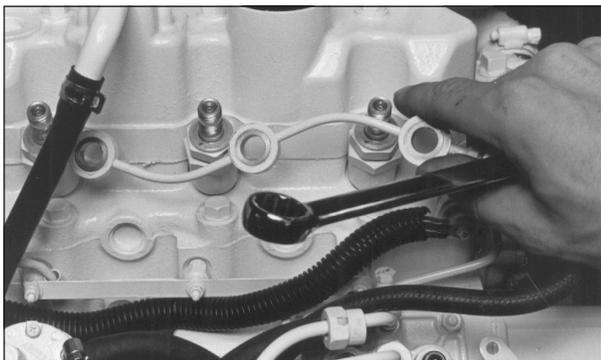

Figure 10: Remove return line.
- d. Remove the return line retaining bolts (Figure 10). Remove the return line (Figure 11).